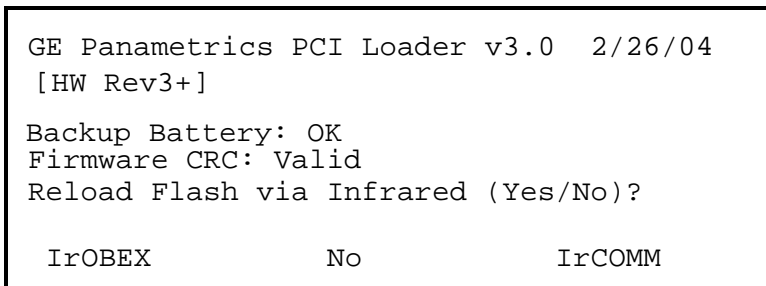

Figure 9-28: Flash Reloading Window
- Press [F3] (OK) to confirm that you wish to erase the program.
4. The meter asks for confirmation. Repeat the options shown in Step 1 above. After the PT878GC reboots, the screen appears similar to Figure 9-28 below.